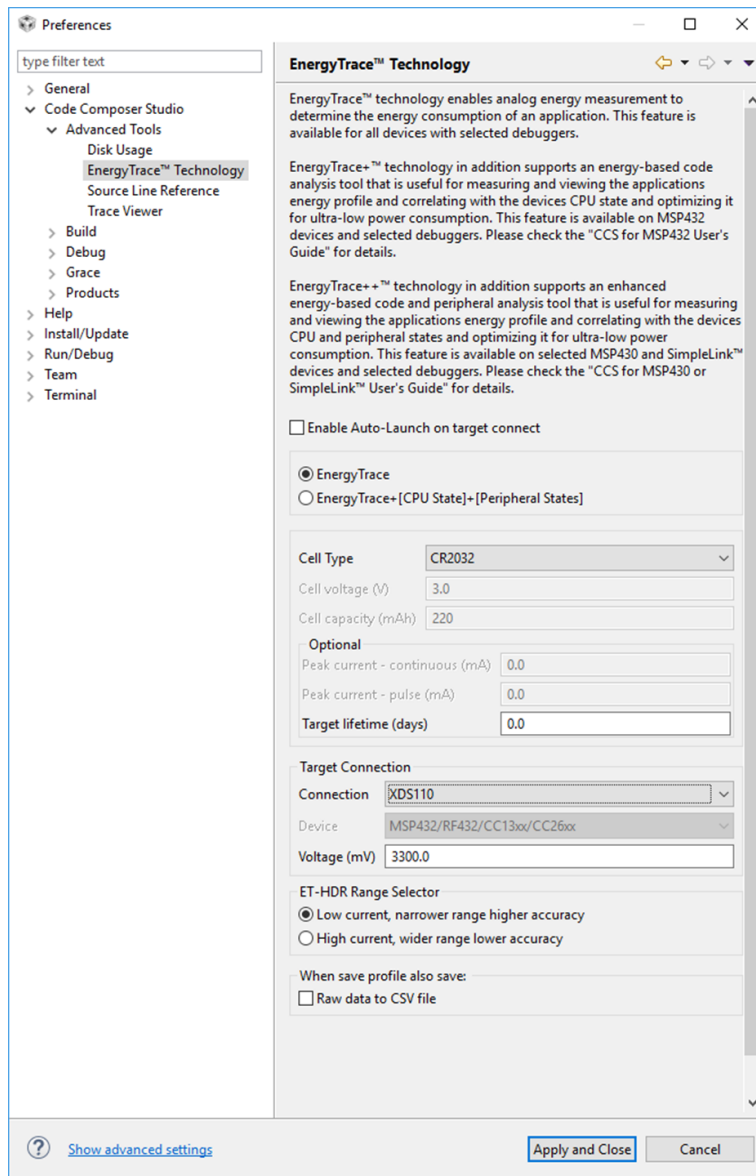

Figure 36. EnergyTrace Technology Configuration
4. Navigate to the `EnergyTrace Technology` window and configure it as shown in Figure 36.